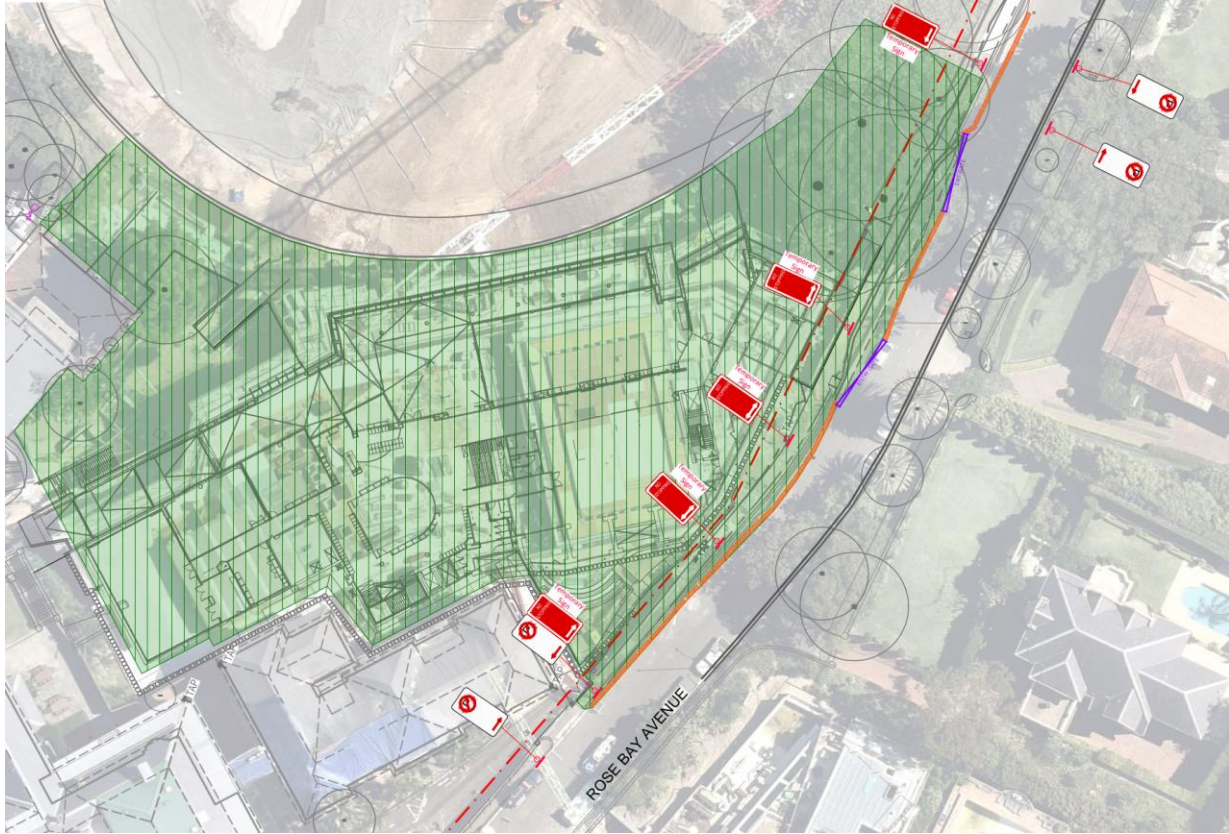
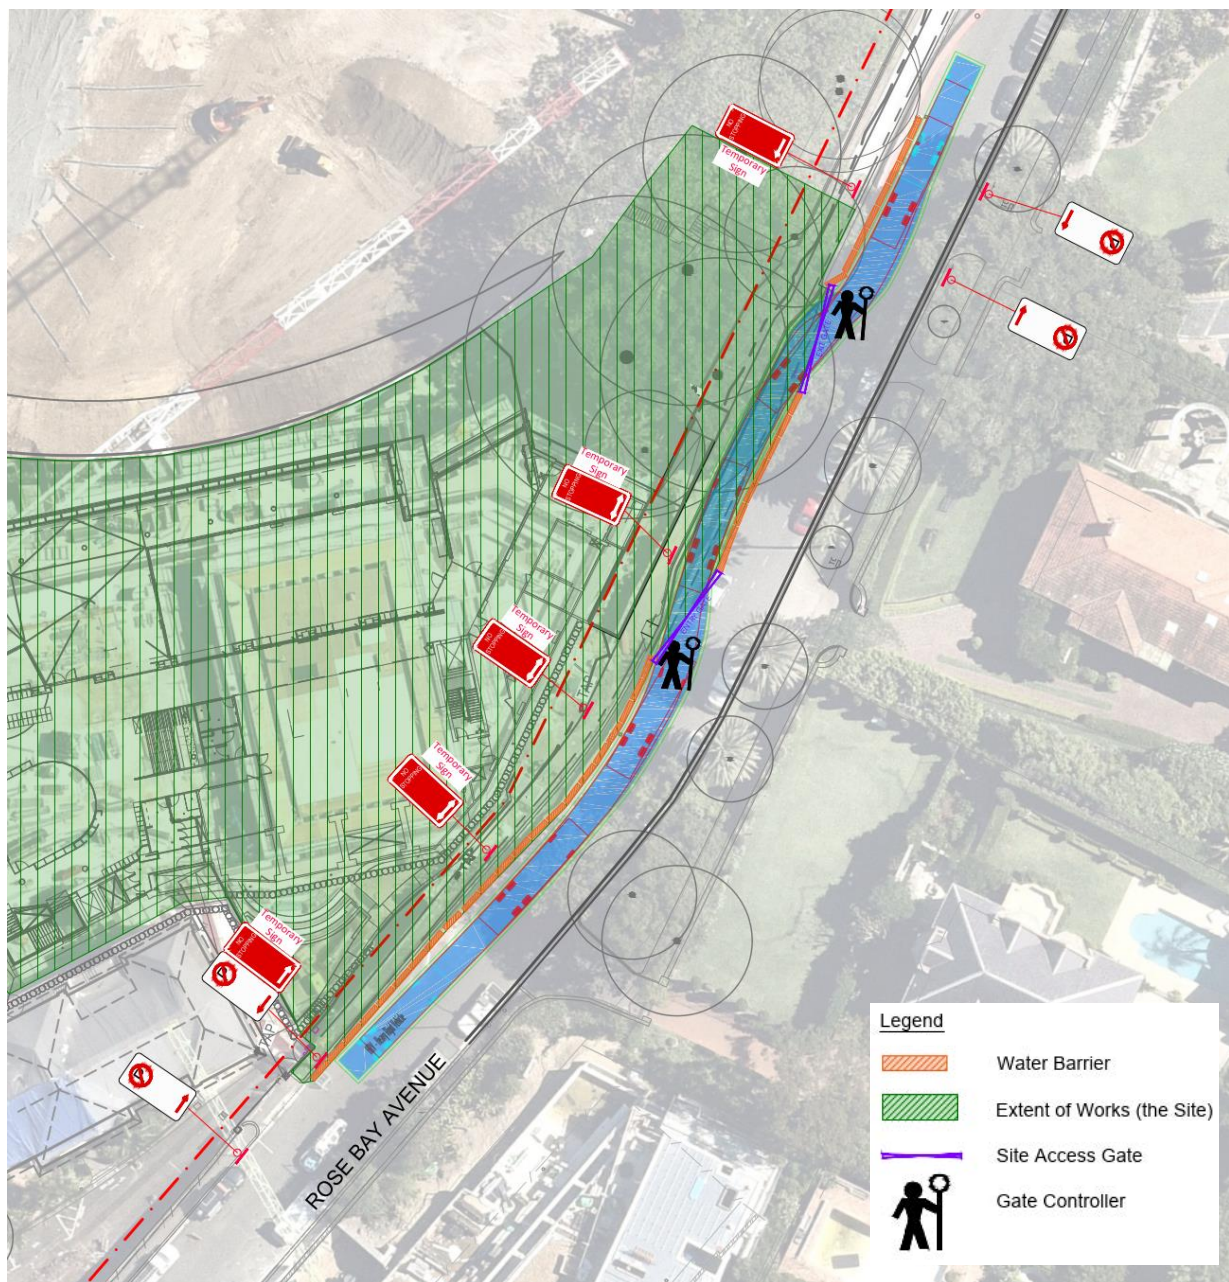

Figure 19 - Site Vehicular Access Arrangements
Figure 20 - HRV Ingress and Egress from the Site
The site currently has two (2) vehicular gates (one for ingress and one for egress) and one (1) pedestrian access gate. The site access arrangements are shown in Figure 19 and Figure 20.
Access & egress to these gates will be managed by traffic controllers at all times. A swept path analysis demonstrating these turns is shown in Figure 20.
The traffic management proposals are shown in Figure 20 and the TCPs are shown in Attachment 2.